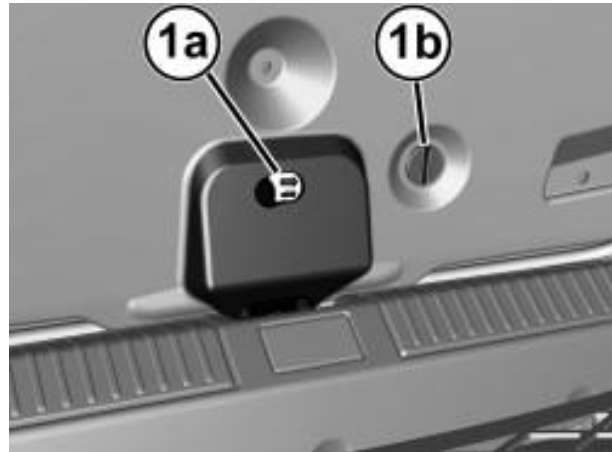

Figure 35 – Lid Lock Release
13. To be able to reopen the luggage compartment lid, even if it accidentally closes with the battery disconnected, before disconnecting the battery, it is necessary to unscrew the cap (1b), release the pull cord hooked onto it and leave it hanging out of the luggage compartment. Then, by working on the pull cord, an emergency luggage compartment lid lock release can be obtained. The pull cord operates on the lever (1a) inside (Figure 35).